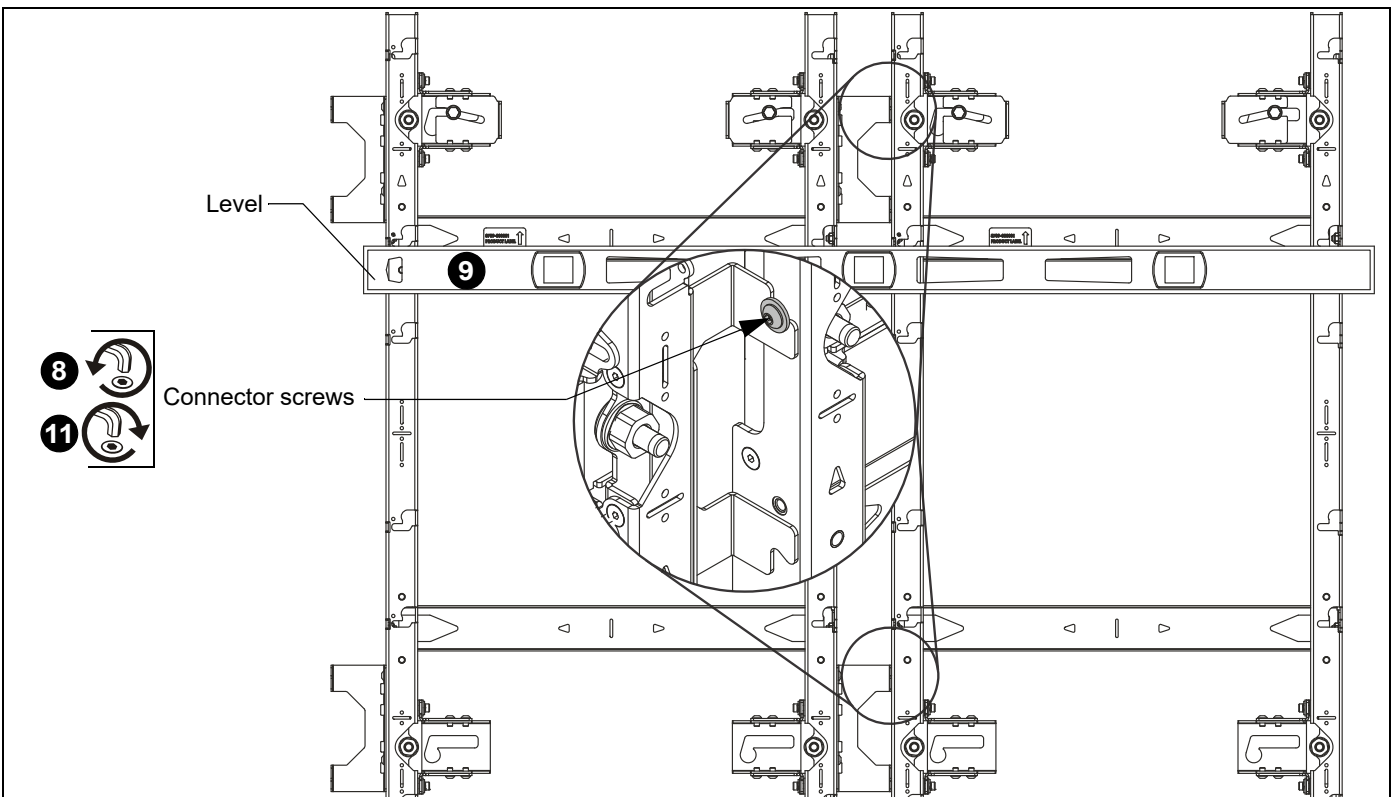

Figure 16
7. Slide the left (H) and right adjustment washers (G) into place behind the partially installed lag screws.
8. Loosen the side connector screws, upper and lower, prior to adjusting the mount height. (See Figure 16)
9. Place a level across front of the mount at bottom of teardrop slots and check that mounts are level and in line with each other. (See Figure 16)
11. Re-tighten connector screws, upper and lower. (See Figure 16)